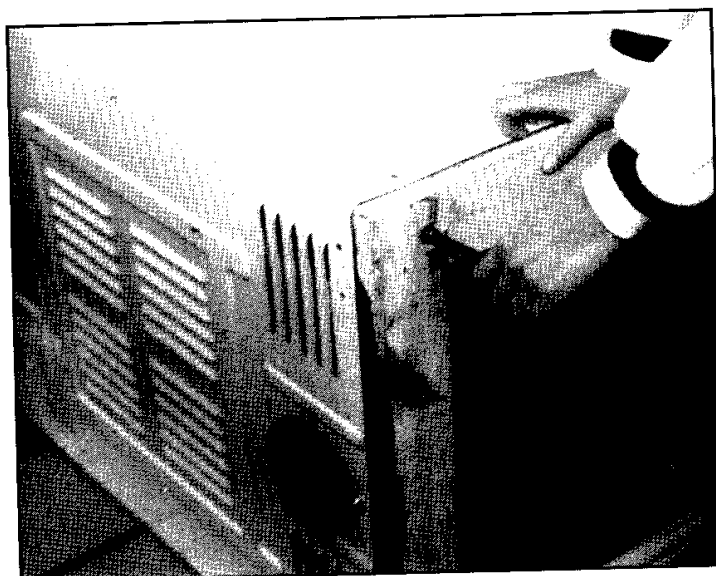

Figure 20
10. Lay the dryer on its side using 2 of the cardboard corner posts to protect the side of the cabinet. (See figure 20.) Remove protective film from the control panel, and using a 5/16 inch nut driver, remove the shipping bolts (3) securing the wood shipping base to the bottom of the upper dryer.